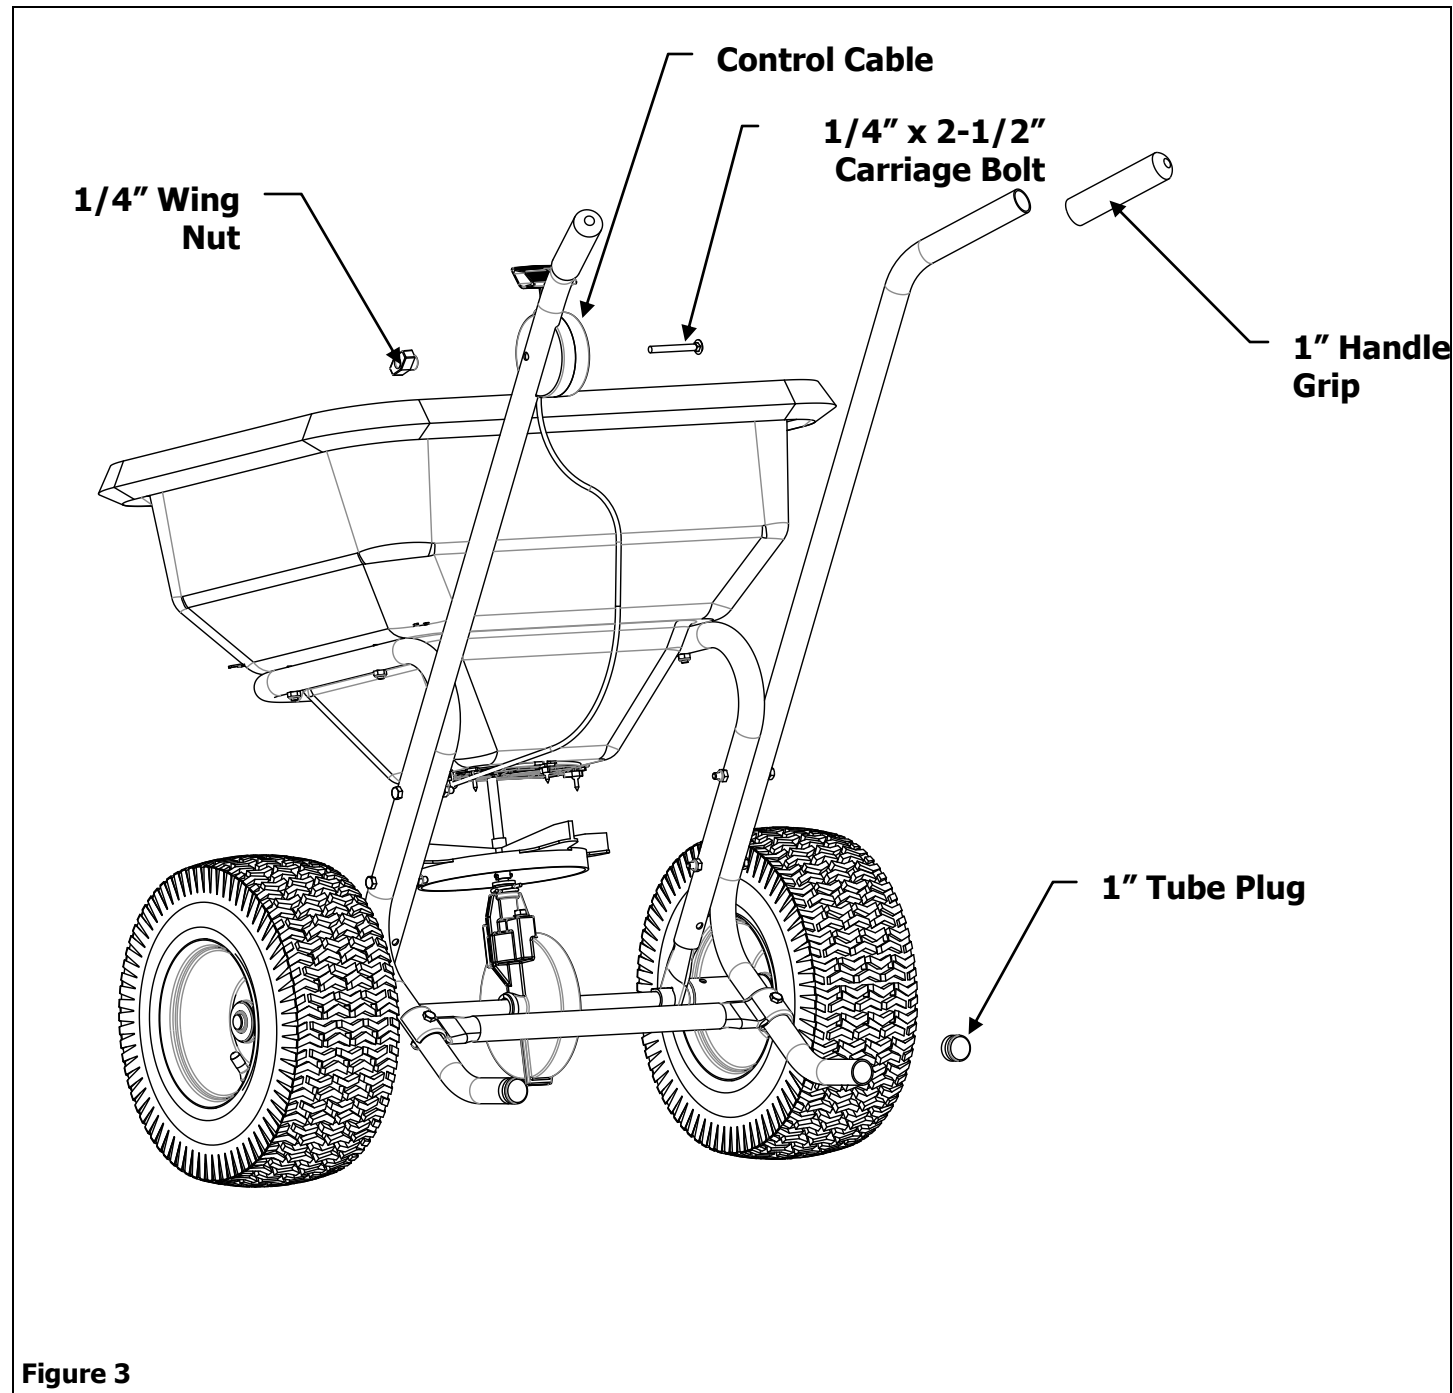

Figure 3
3. Attach the Control Cable to the outside of the Left Handle using a 1/4" x 2—1/4" Carriage Bolt and a 1/4" Wing Nut. Insert the 1" Tube Plugs inside the opening of both handle bottoms. Place the 1" Handle Grips over both Handle tops. See Figure 3.